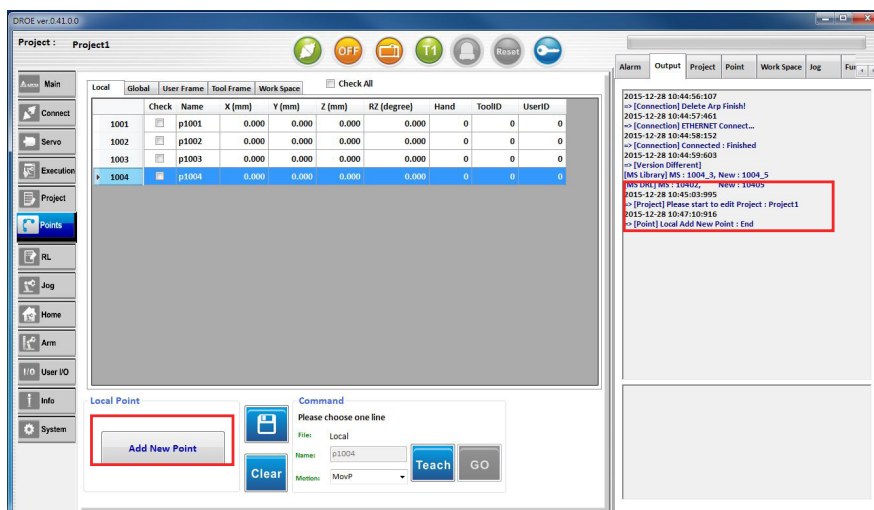

Fig.25 Increase Local Point
2.Local Point (add new point position) , as shown in Fig.25: